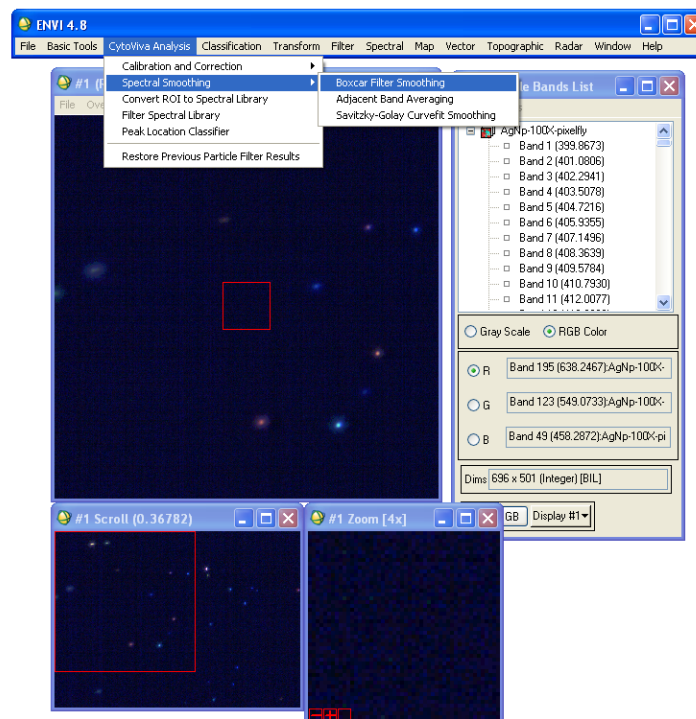

Figure 1. CytoViva Analysis Tab
3. Select Input File box opens. Select from list or choose Open, New. Click OK (see Figure 1).